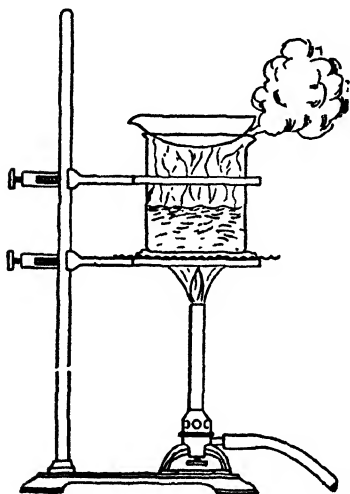

FIG. 11.
Now place about 1 g. of gunpowder in a large test-tube and add 5-10 c.c. of water. Shake well (after closing the test-tube with the thumb), warm gently, and filter. Evaporate the filtrate upon a water bath or over a beaker of boiling water (Fig. 11). Describe and name the residue (?). Dry (why?) the filter paper and its black contents over a radiator or in a drying oven. Shake the dried product with cold carbon disulphide in a dry test-tube, filter, and allow the filtrate to evaporate [Hood] spontaneously (?). What remains upon the paper?
**b. Composition of an Oxide of Iron.** Weigh an evaporating dish of medium size, place in it about 1 g. (12 inches) of pure iron wire, and weigh again. Cover the dish with a watch-glass, convex side downward, and add 10 c.c. of pure dilute nitric acid [Hood]. Set the dish, covered, on a water bath (see Fig. 11, p. 18) until the iron has dissolved, adding a few drops of concentrated nitric acid if any of the wire remains unattacked (Instructions). Then rinse any material on the cover-glass carefully into the dish with the help of your wash-bottle and evaporate the solution to dryness. When the residue is dry, place the dish on a clay triangle supported on the ring-stand and heat carefully with a burner held in the hand as long as any red fumes are given off. During this process, and especially at first, great care and patience must be exercised, as too rapid heating may cause solid particles of the product to be thrown from the vessel. If any crackling noise is observed, remove the burner at once. When, after final strong heating of every part of the material, red fumes or other evidence of continued change can no longer be perceived, allow the dish and contents (?) to cool, and then weigh. To make sure that the decomposition was complete, heat once more, cool, and weigh again. This precaution is always necessary in experiments of this nature.
[Quant., balance], and record the results as shown below. Place in each some sodium bicarbonate (baking soda), in the one about 1 g. and in the other about 2 g., and weigh again. Treat both alike, as follows: Dissolve the solid in pure dilute hydrochloric acid, adding little by little and covering with a watch-glass between successive additions to avoid loss by spurting. When the solid has wholly dissolved, wash the watch-glass over the dish, and evaporate [Hood] the contents of the latter on the water bath, or on a beaker of boiling water (Fig. 11). (Avoid loss of time by borrowing a second Bunsen burner and gas tubing temporarily from the storeroom.) Allow the dishes to become perfectly cold, and weigh. To make sure that the drying was complete, heat once more for half an hour and, when cold, weigh again. This precaution is taken in all experiments of this kind. The product is common salt.